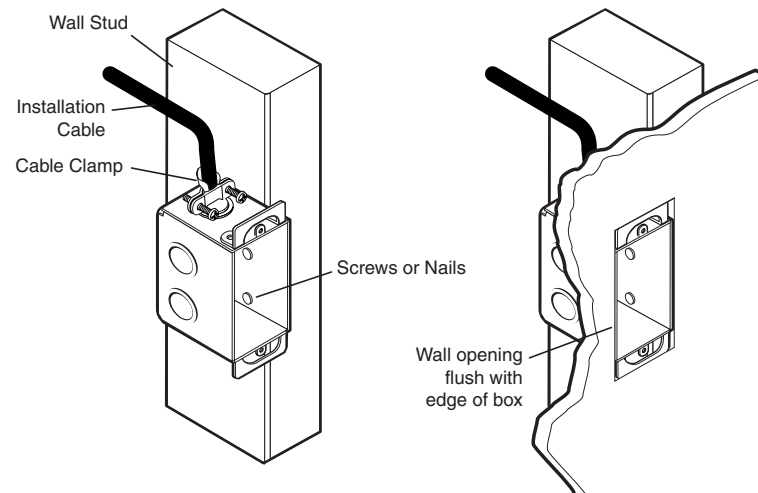

Figure 2-3 — Attaching a wall box to a stud
- 5b. **If you are using a wall box**, insert the wall box into the opening, and attach it to the wall stud or furniture with nails or screws, leaving the front edge flush with the outer wall or furniture surface (figure 2-3). The illustration applies to both two-gang and four-gang wall boxes.